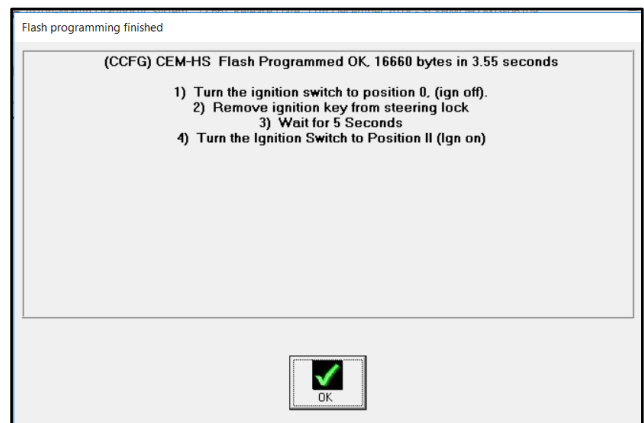

Figure 9
14. Once the flash update is complete, click “OK” (refer to Figure 9).